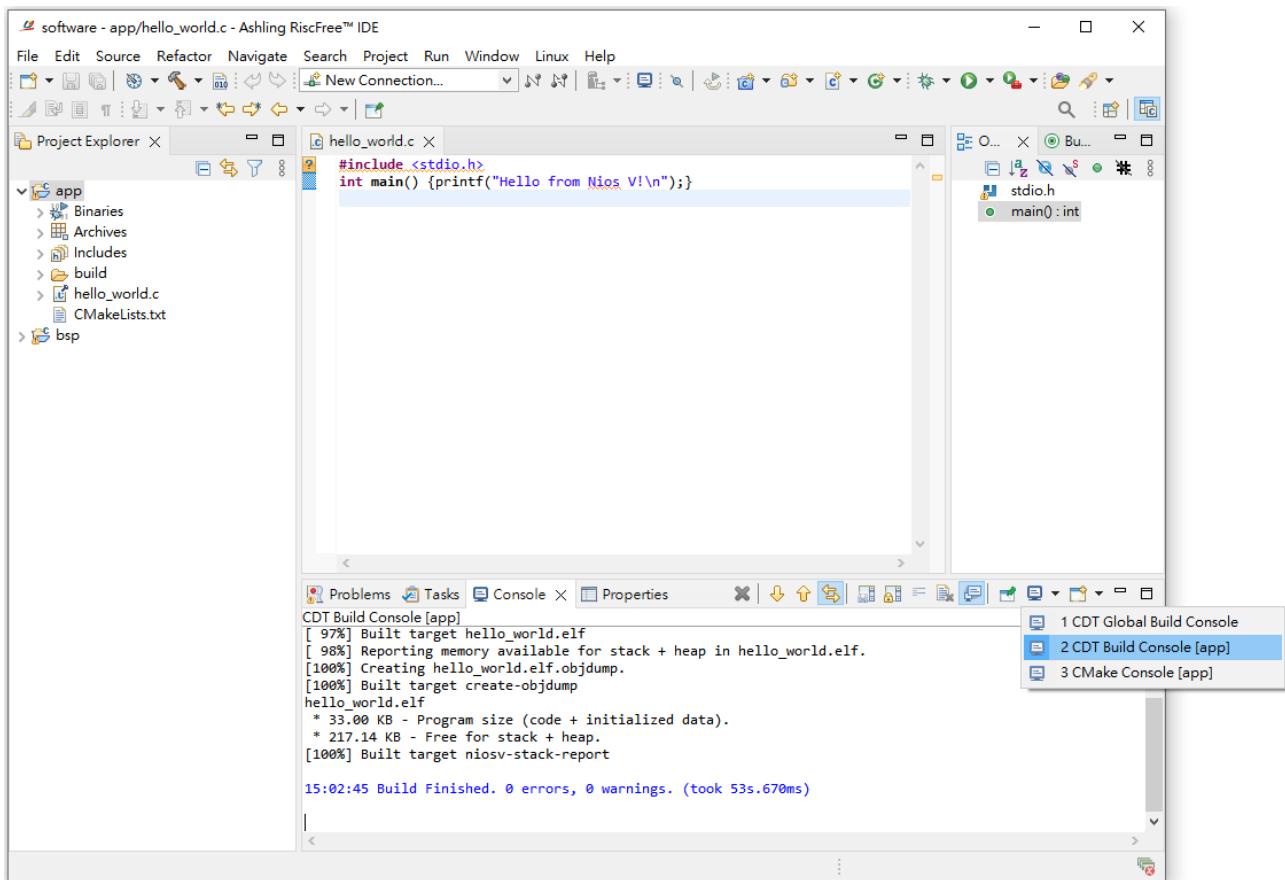

Figure 3-18 Ashling RiscFree IDE app Build Completed
- When the compilation is complete, a **Build Finished** message will appear in the **CDT Build Console**. The compilation time will vary depending on your system. Refer to Figure 3-18 for an example.